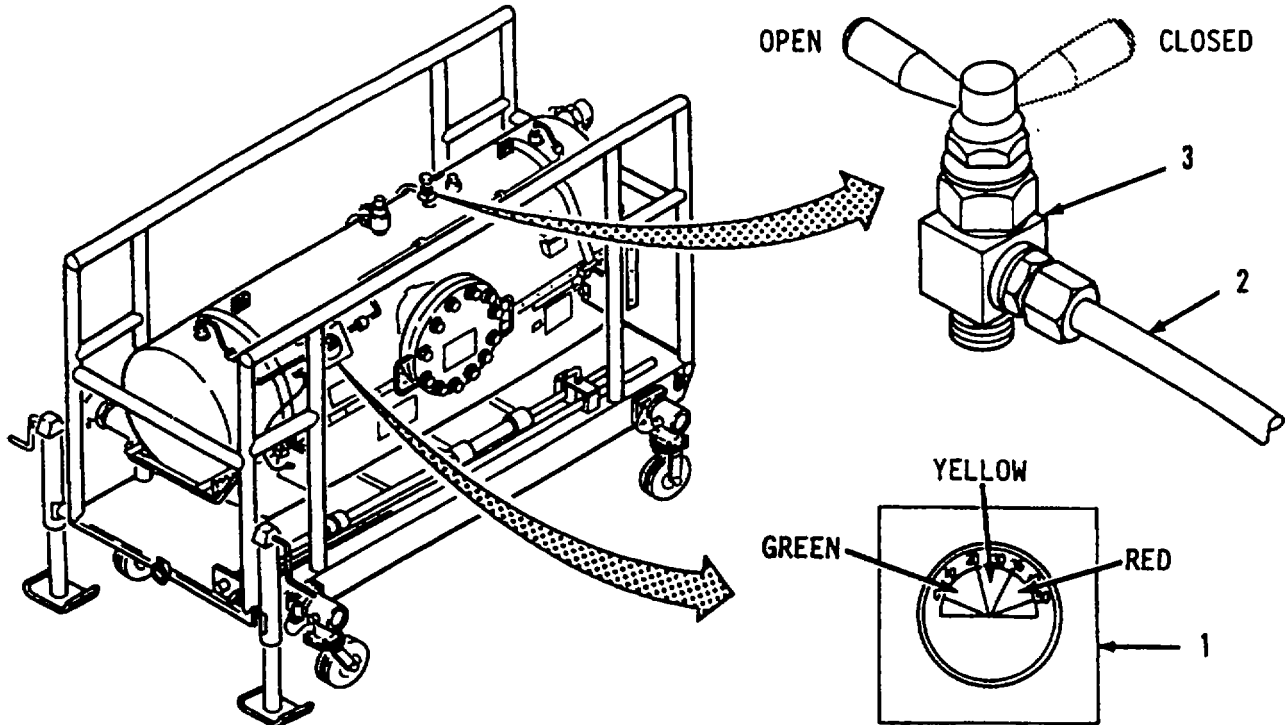

Figure 2-17. Air Purging.
c. Monitoring Differential Pressure (DP)(Refer to Figure 2-17). The DP gage (1) indicates the differential pressure between the inlet and out pressures to determine filter element condition. Differential pressure is checked by observing the needle indication on the DP gage (1). When the reading reaches the yellow zone, the filter elements of the first stage filter should be replaced immediately after operation. If reading in the RED PORTION, STOP IMMEDIATELY AND NOTIFY UNIT MAINTENANCE
d. Air Purging (Refer to Figure 2-17). Purging air from the filter-separator tank is necessary when filling tank, refer to para 2-5.
- (1) Place an empty container under the air vent tube assembly (2).
- (2) Slowly open the air vent valve (3) and allow air to escape from the vent tube assembly (2).
- (3) Close the air vent valve (3) when fuels flows out of the vent tube assembly (2).